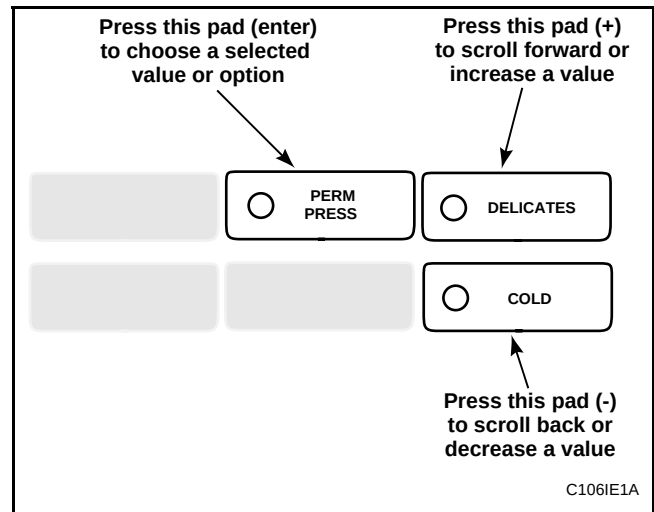

Figure 54
5. Press the DELICATES (+) or the COLD (-) keypad to increase or decrease the current number of minutes displayed in the VFD to the desired number of minutes. See **Figure 54**.